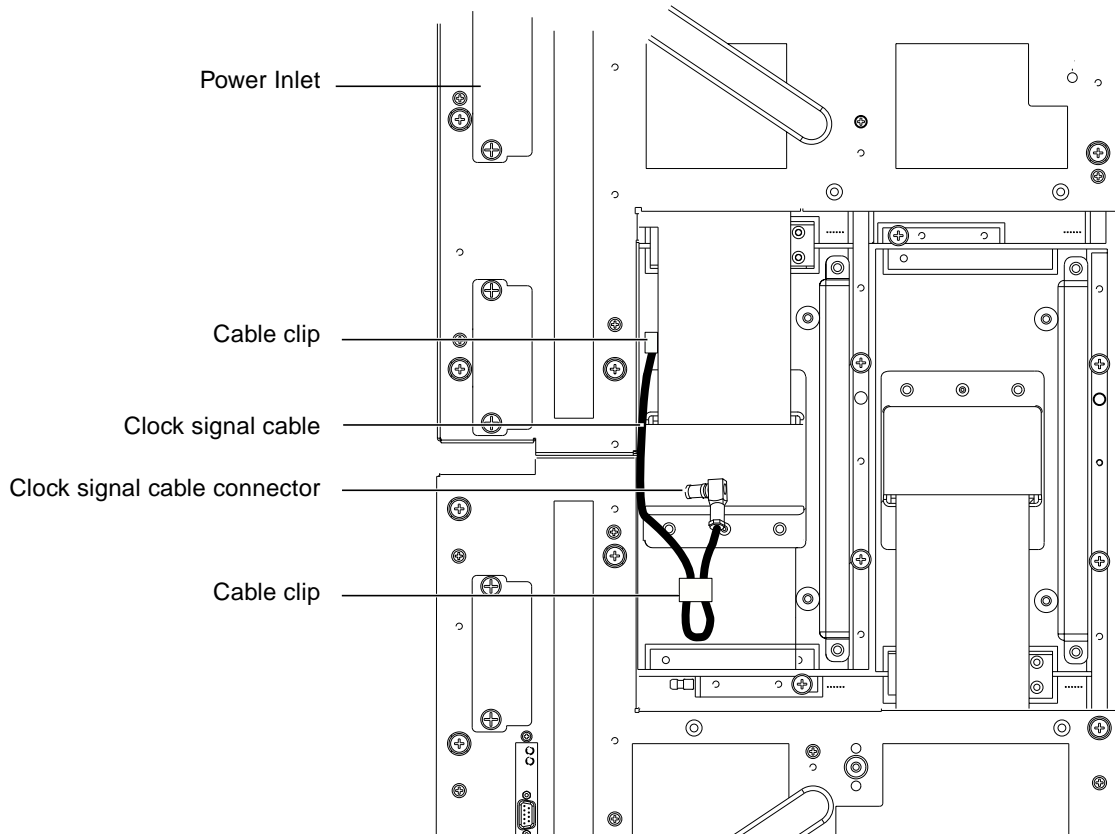

FIGURE 5-4 Securing the Clock Signal Cable
6. Secure the cable using the cable clip provided, as shown in FIGURE 5-4.